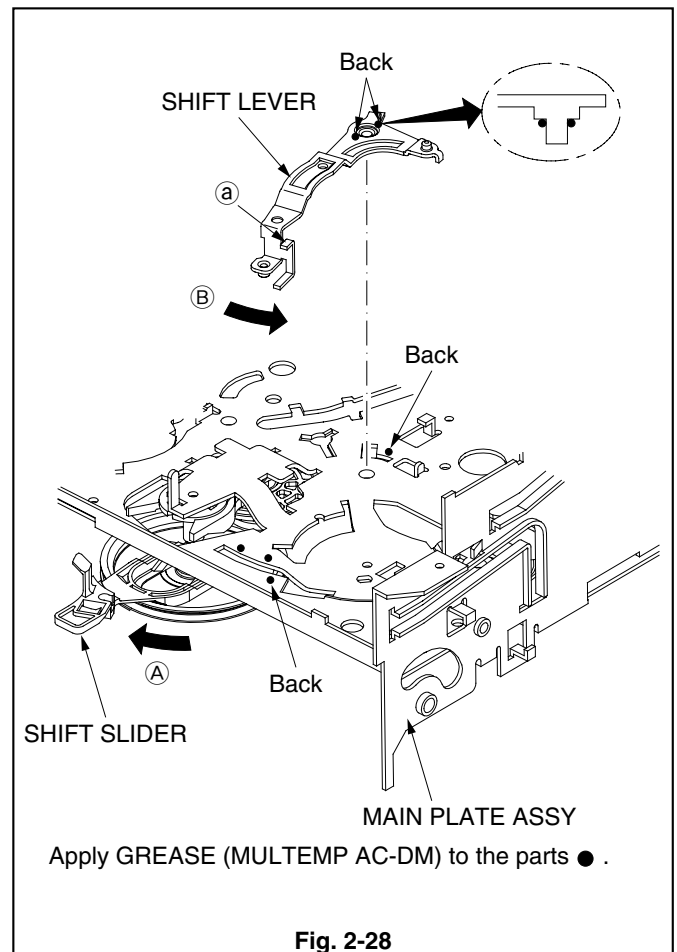

Fig. 2-28
1. Move the SHIFT SLIDER in the Fig. 2-28 in the direction shown by the arrow (A) to release it from the SHIFT LEVER.
2. Move the SHIFT LEVER in the Fig. 2-28 in the direction shown by the arrow (B) to remove it.
1. Apply GREASE (MULTEMP AC-DM)[859D055O90] to the parts on the new SHIFT LEVER specified in the Fig. 2-28.
2. Apply GREASE (MULTEMP AC-DM)[859D055O90] to the parts on the MAIN PLATE ASSY specified in the Fig. 2-28.
3. Install the SHIFT LEVER so that its Part (a) shown in the Fig. 2-28 will be positioned under the MAIN PLATE ASSY.